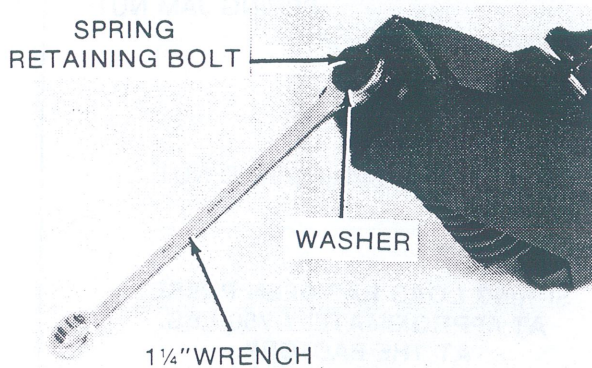

Figure 30
- (b) Slide a 1 1/4" wrench between the Trip top and the washer on the Bolt. See Figure 30.